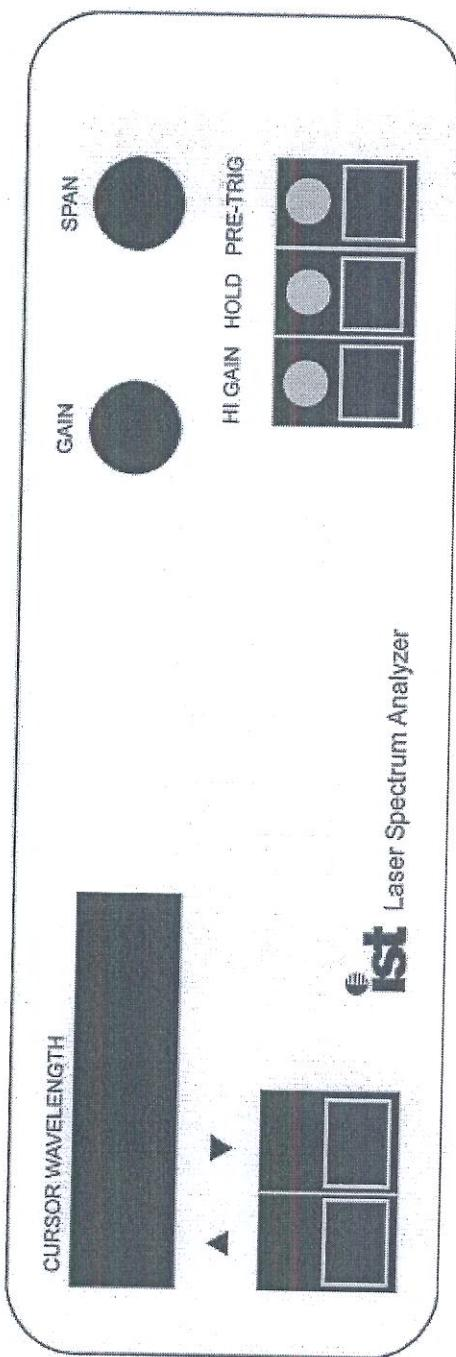

Figure 2 – LSA Controller Front Panel
1. Figure 2 shows the front panel layout of the controller. The following is a brief description of the operating controls and their uses.